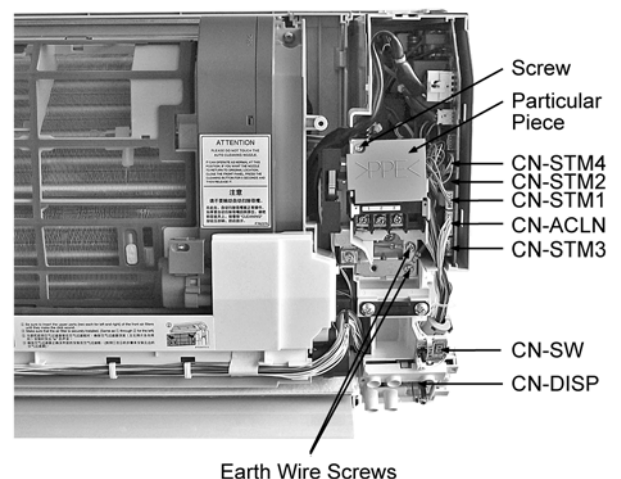

Fig. 4
7. Remove the Particular Piece by screw. (Fig. 4)
8. Remove the Earth Wire screws. (Fig. 4)
9. Releasing CN-STM4, CN-STM2, CN-STM1, CN-ACLN, CN-STM3, CN-SW & CN-DISP (Fig. 4)